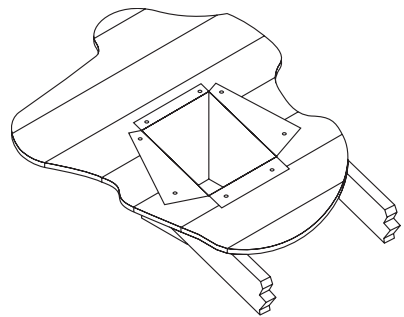

Figure 21
7. Using tin snips, cut the Support Box from the top corners down to the roof line, and fold the resulting flap over the roof sheathing (*Figure 21*). Before nailing it to the roof, run a bead of non-hardening sealant around the outside top edges of the Support Box so as to make a seal between the box and the roof. Clean out any combustible material or debris from inside the Support Box.